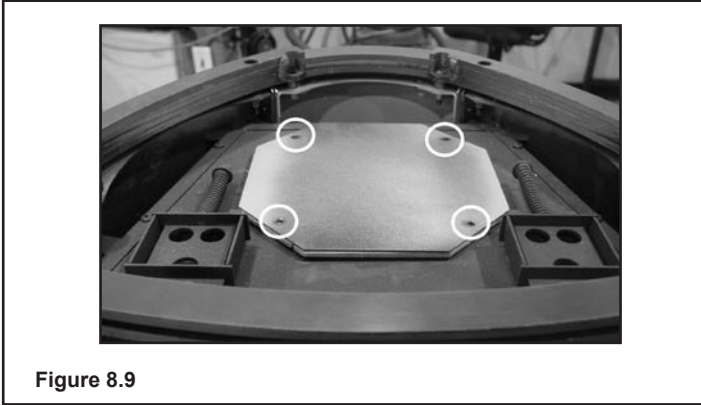

Figure 8.9
9. Install the cover plate removed from the rear of the appliance to the top of the appliance with the screws previously removed. (Figure 8.9)